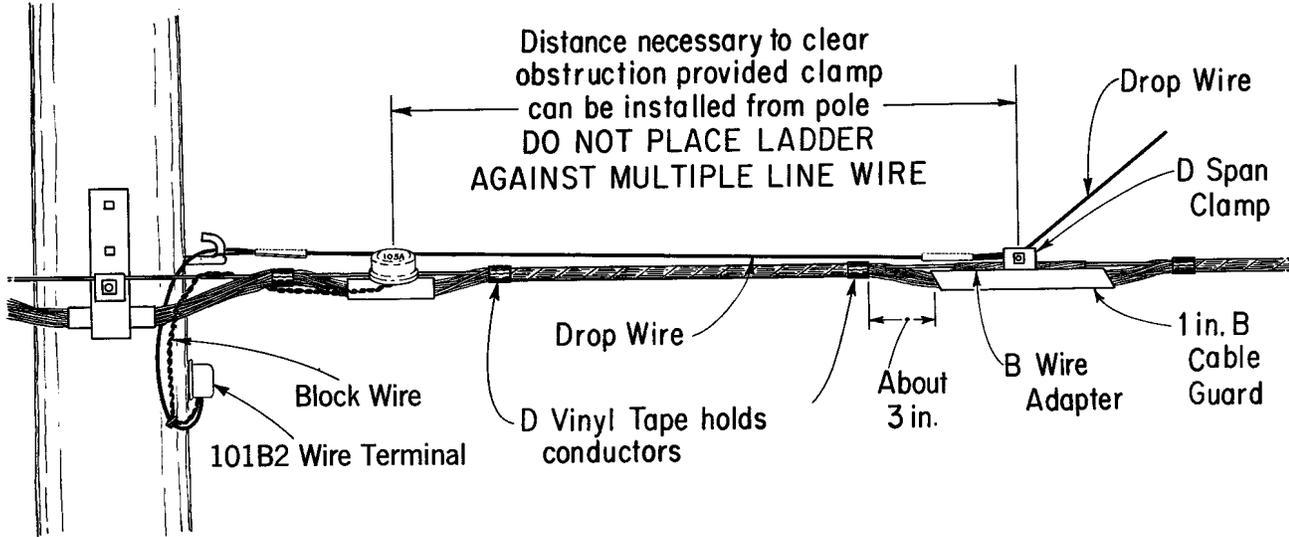

Fig. 12 – Adapter Used for Clearances of Obstructions
4.02 At 105A Wire Terminals where the B Wire Adapter is used to attach drop wires to the support wire in order to clear obstruction, install terminals and adapter as shown in Fig. 12.